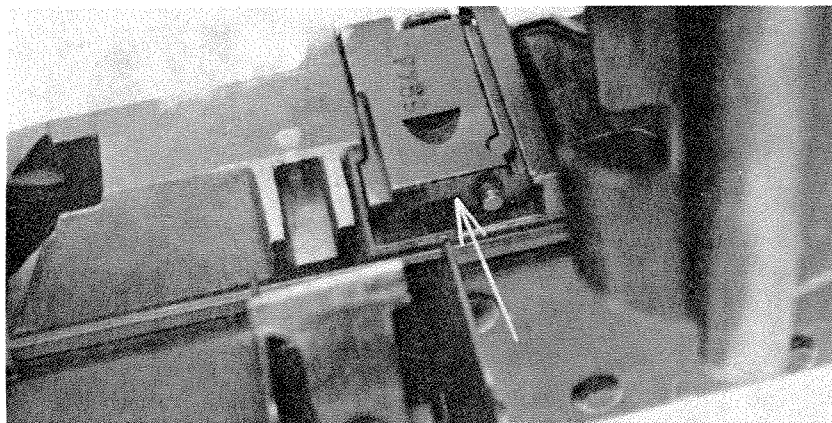

Figure 5-3. Barrel locking latch in closed position to right of receiver,
c. Close the barrel locking latch assembly by sliding the barrel locking latch to the right of the receiver (fig. 5-3). This will lock the barrel in place.